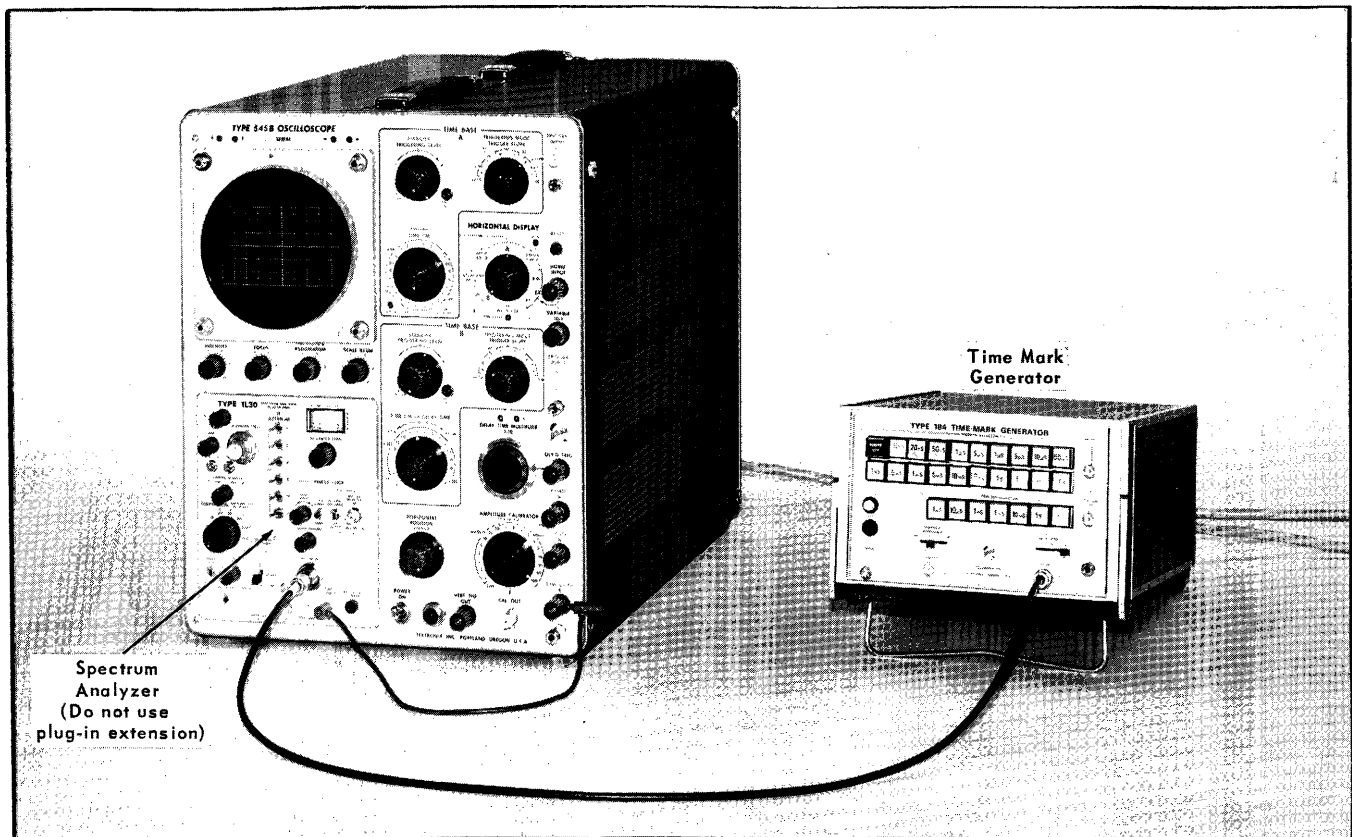

Fig. 6-26. Setup for checking Incidental Frequency Modulation.
a. Set up the equipment as shown in Fig. 6-26.